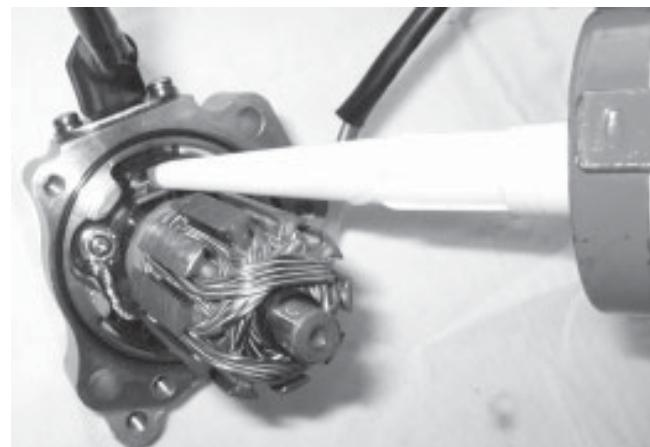

Fig. 64
- ⇒ Fill the starter motor support with Loctite 5910 in the region of the positive pole, see Fig. 64. This protects the fragile carbon brushes from vibration.